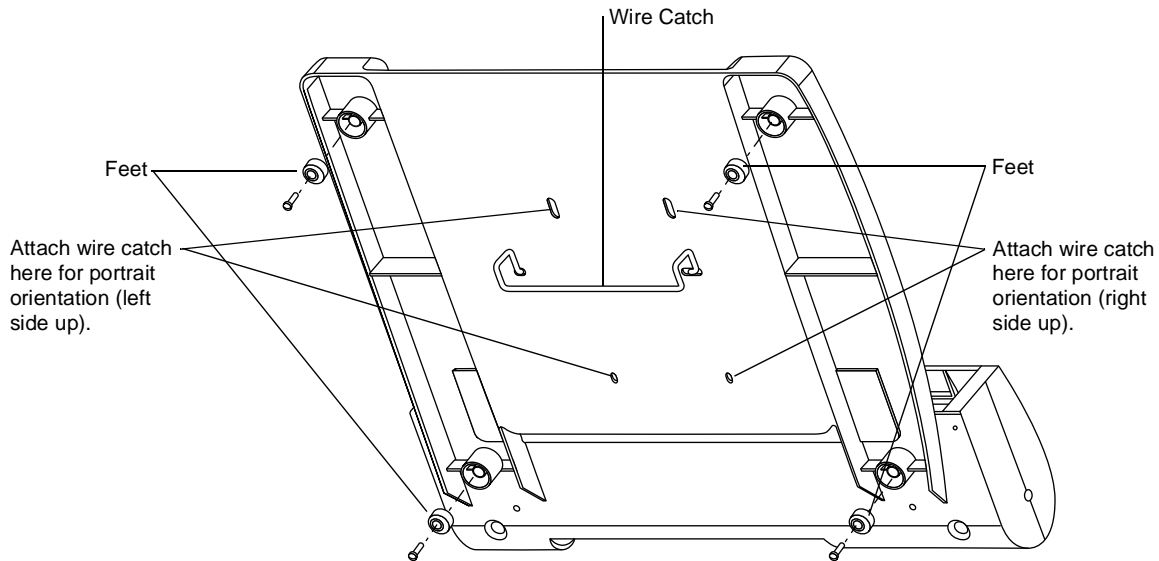

Figure 2-4. Port Replicator (Back View)
Using the four screws provided with the cradle module, attach the rubber feet to the back of the cradle module as shown in Figure 2-4. Tighten the screws until they are snug, do not over tighten them.
1. Determine which set of mounting holes is appropriate depending on how you intend to orient the pen tablet on the desk stand. Figure 2-4 shows the wire catch installed in the landscape-mode position. The mounting holes for both portrait-mode positions are also called out.